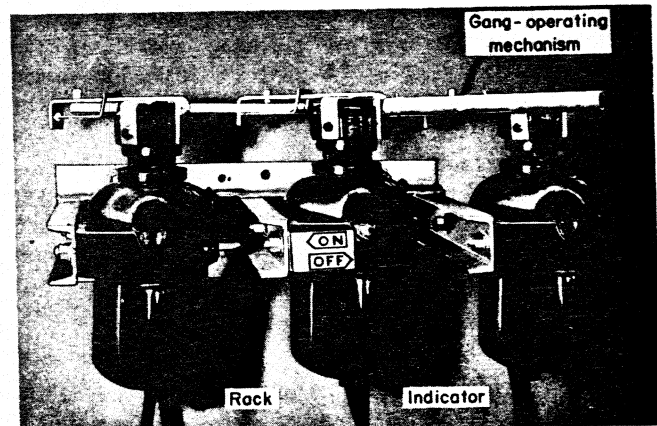

Fig. 19. Rack and gang-operating mechanisms for vented cutouts
1. Mount the vented cutouts on the rack as shown in Fig. 19.
4. Push the indicator snugly against the contour of the cutout bracket, Fig. 19.
(a) As the fuse carriers are inserted in the cutouts and are, therefore, in the full OFF position, the holes in the lever arms, Fig. 19, should slide freely over the pins on the sliding bar of the mechanism when it is parallel to the rack mounting base.